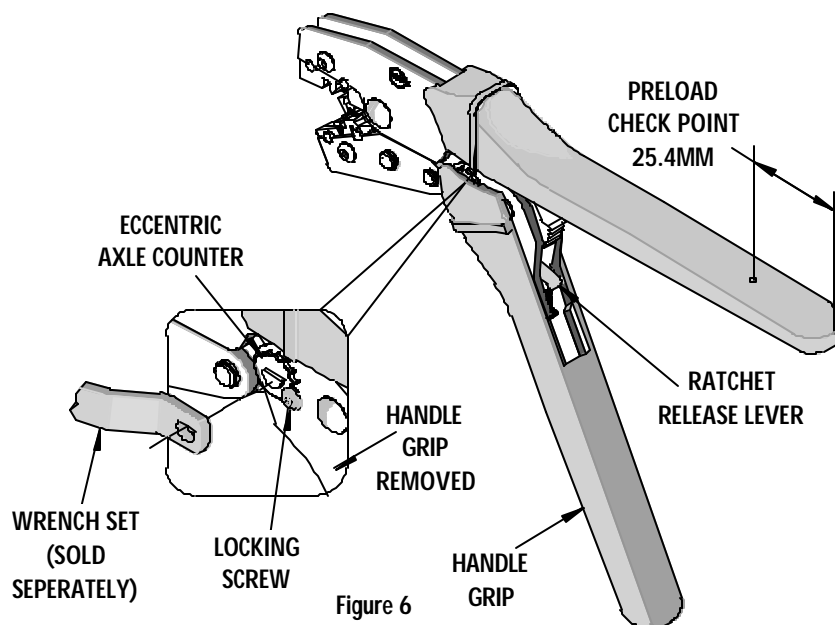

Figure 6
3. Make certain all pins; pivot points and bearing surfaces are protected with a thin coat of high quality machine oil. Do not oil excessively. The 63811-3300 was engineered for durability but like any fine piece of equipment it needs cleaning and lubrication for a maximum service life of trouble free crimping. A light oil such as 30 weights automotive oil used at the oil points shown in Figure 6, every 5,000 crimps or 3 months, will significantly enhance the tool life.
Should this tool ever become stuck or jammed in a partially closed position, **Do Not** force the handles open or closed. The tool will open easily by pressing the ratchet release lever (See Figure 6).
How To Adjust Tool Preload (See Figure 6)